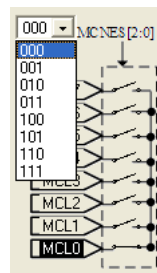

Figure 52
- (1) Click mouse left key to the network name, CPIH, to select the network
- (2) Click mouse left key to the network switch, MCNES to select the network
- (3) Click mouse left key, window like Figure 52 shows up, then user can select the switch network